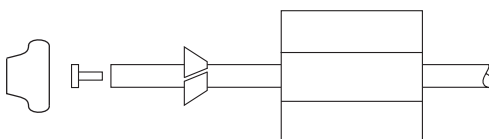

Figure 6
Once the tubing has been pushed into the nut it cannot be pulled out. The nut will need to be removed. See Figure 6 for correct assembly.
5. Make compression fitting connection between brine line and valve (Figure 6).